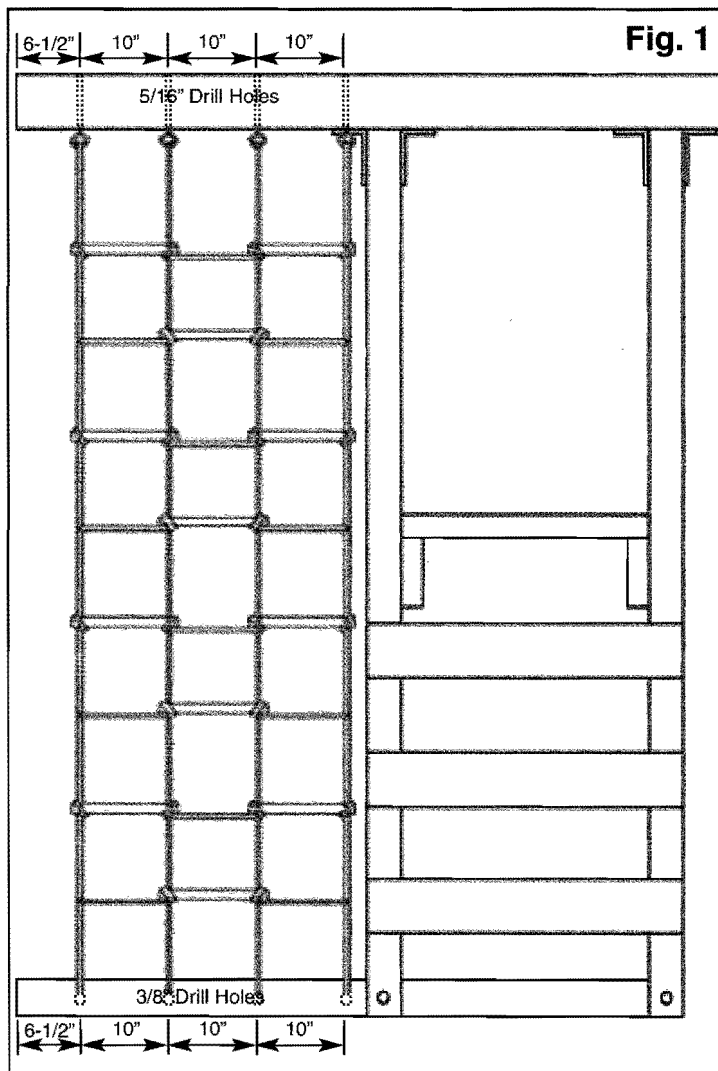

Fig. 1
2. Drill four 5/16" holes in the top of the beam as indicated in Fig. 1. Attach beam clamps to the top and bottom of the beam over the holes and secure using 2" screws. Drill four 3/8" holes in the base as indicated in Fig. 1.
3. Attach the 2" x 6" x 80" board to the base as indicated in Fig. 1 using four 3" screws at each joint. Drill through the existing holes in the post and through the new base board. Insert previously removed carriage bolts and secure using hardware removed earlier.
4. Attach remaining lumber to the unit as shown in Fig. 1 using three 3" screws per joint.